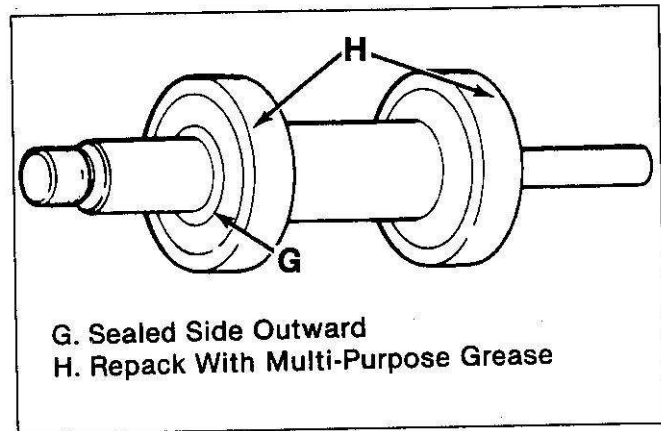

Figure 15. Installing Bearings and Spacer
1. Spindle, bearings and spacer (4, 5, 6), using a bench press and a suitable installer (figure 15).